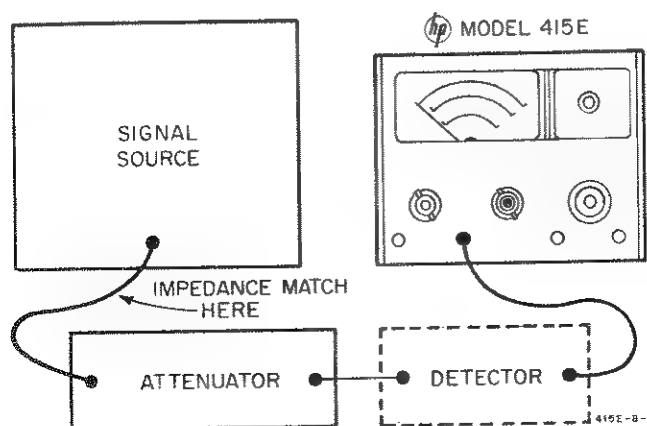

Figure 3-7. Attenuation Measurement Setup
**3-32.** The 415E may be used for high resolution insertion loss measurements simply by inserting the device to be measured between signal source and detector and noting the change in DB indication on the 415E. A typical measurement is shown in Figure 3-7. The continuous coverage of the EXPAND scales allows any attenuation measurement to be made on the EXPAND scales. For accurate results, both the signal source and the detector should be well matched. Impedance match of source and detector can be improved, if necessary, with padding attenuators, isolators, or tuners.